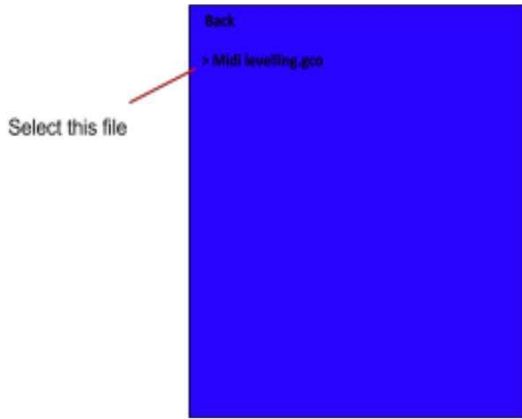

Fig 3
1. Insert SD card (if already inserted remove and re-insert). On the file list shown on the Lcd screen scroll down and select the file named 'Kora Pro\_bed\_levelling.gco' (see fig 3 below). The printer will home all axes, then move the nozzle to far right hand corner slowly raising the bed towards the nozzle.